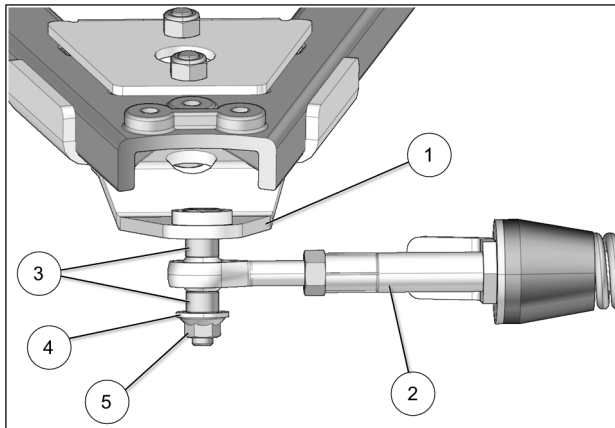

Fig. 20
9. Attach the stabilizing rod (2) to the anchor bracket (1), using the two spacer bushings (3), washer (4), and nut (5). Torque to 70 N•m [52 lb•ft]. See Fig. 20